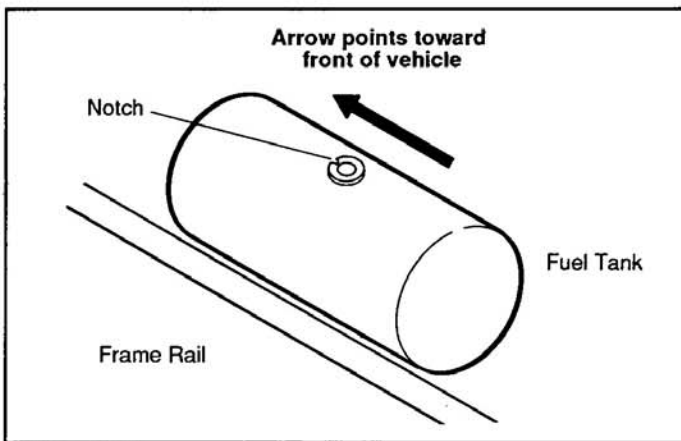

Fig. 2
- Set the backing plate on the fuel tank in the location you chose to install the Warmer (in Step 1), with the longer side of the threaded nuts facing up. For future reference, the notch on the backing plate should point toward the front of the vehicle. See Fig. 2.